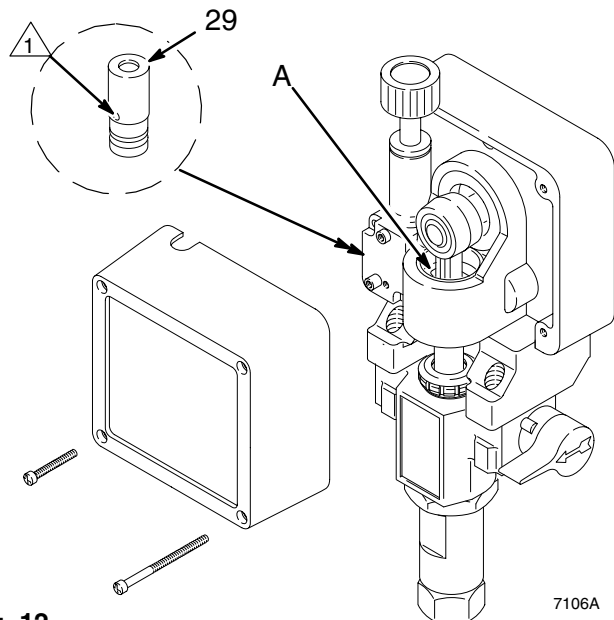

Fig. 12
4. **Periodically clean paint residue from the pressure transducer (29) vent hole area.** See Fig. 12. Replace the transducer when leakage is excessive. See page 28.
5. **Lubricate the bearing housing** after every 100 hours of operation. Remove the front cover. Fill the bearing housing cavity (A) with SAE 10 non-detergent oil. See Fig. 12.